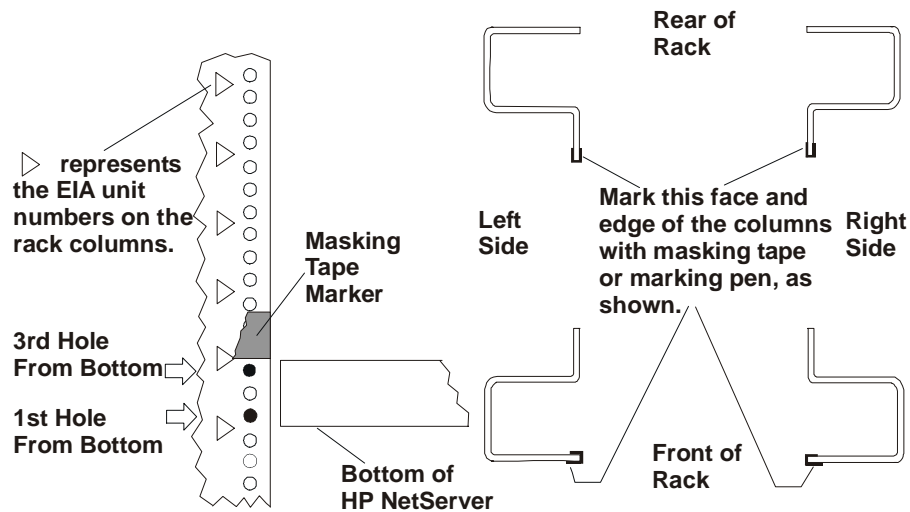

Figure 13-3. Location Marks on the Rack's Columns
2. Use the masking tape (or marking pen) to mark above the 3rd hole up on both front columns, as shown in Figure 13-3.
3. Mark the forward face and edge of the left-rear and right-rear rack columns, with masking tape, as shown in Figure 13-3.
4. Insert the front outer-rail pins into the column holes (1st & 3rd) just below the marking tape on the front column. See Figure 13-3.